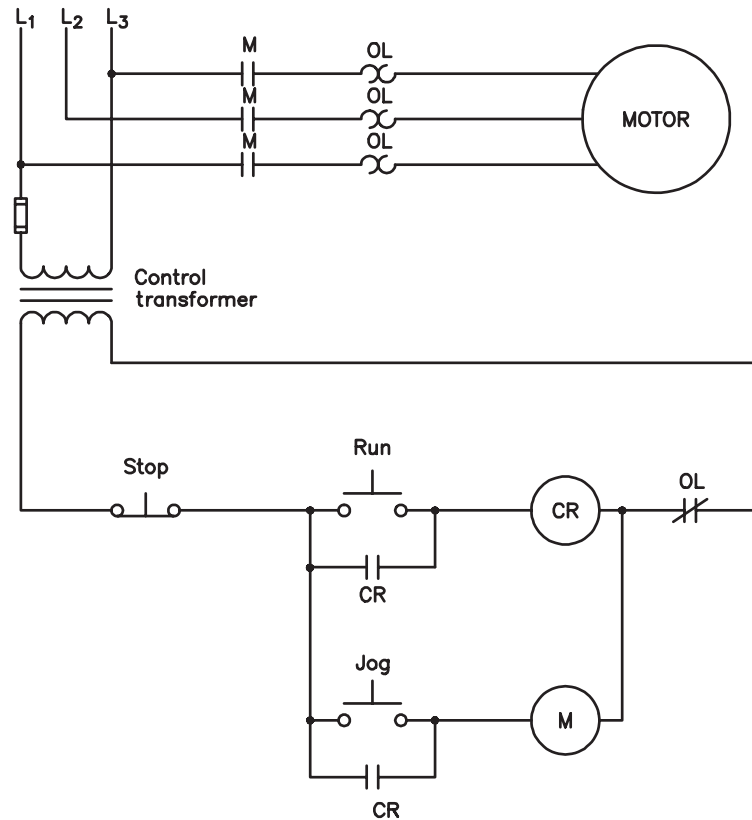
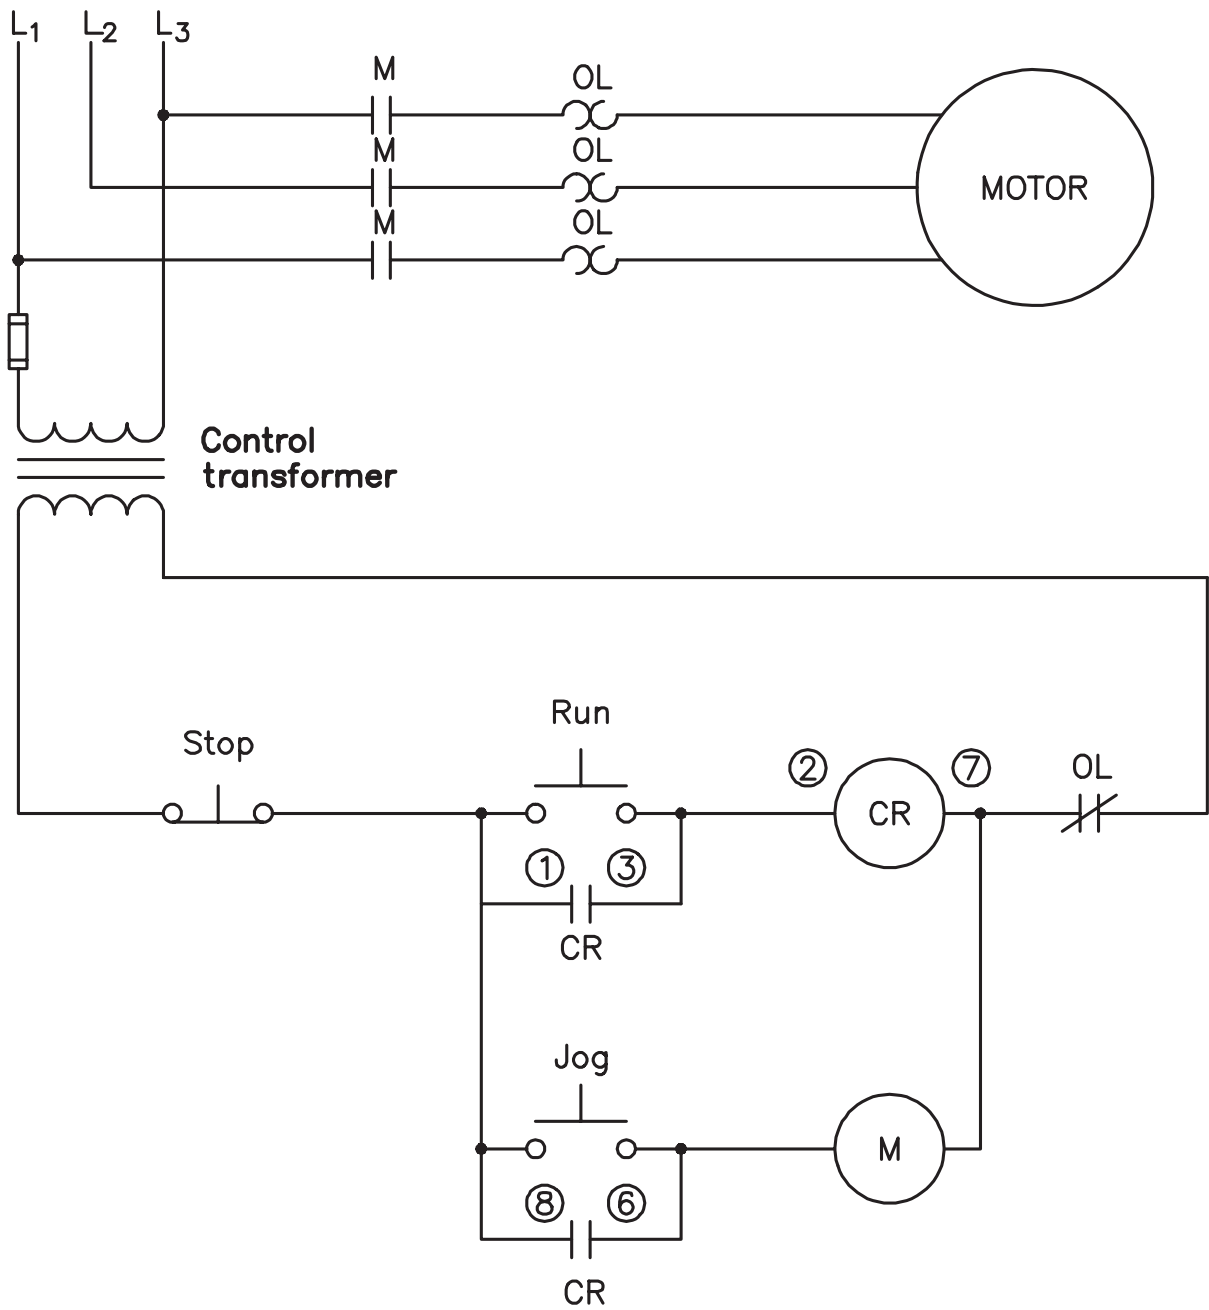
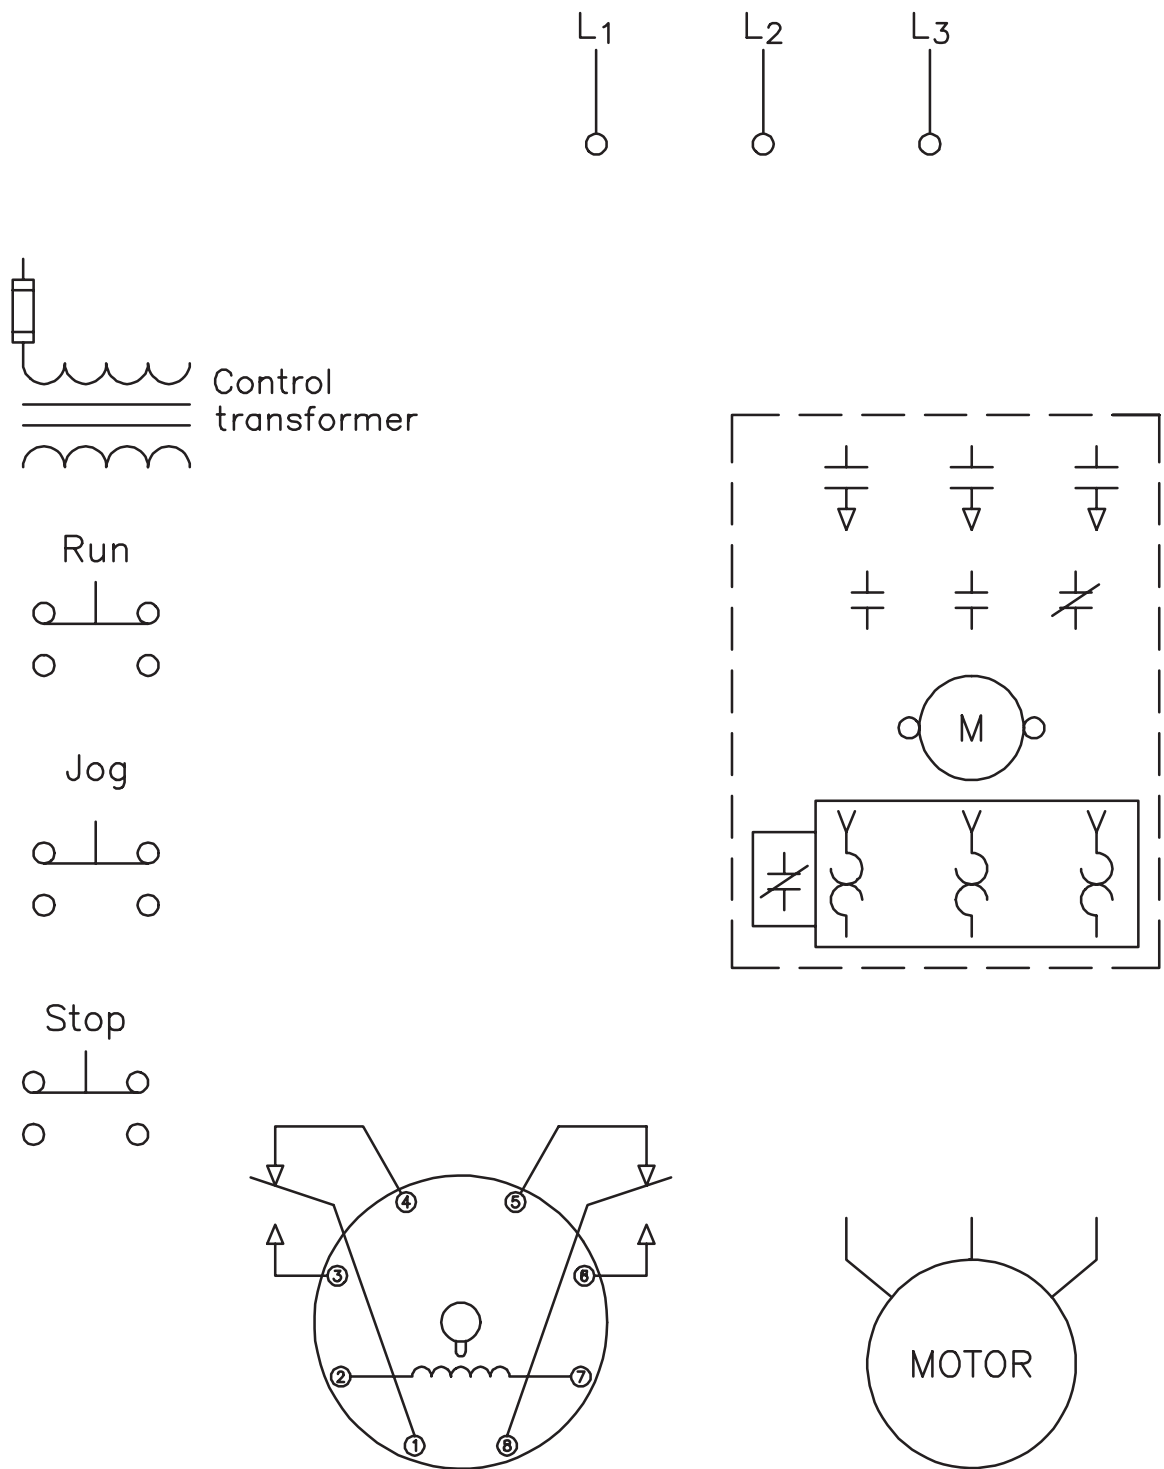

Figure 30-4 Run-jog control using a control relay.
Figure 30-8 Adding pin numbers aids in connecting the circuit.
Figure 30-9 Components for circuit.
Although a double-acting push button can be used to construct a run-jog circuit, it is not generally done because there is a possibility that the normally closed section of the jog button could reclose before the normally open section reopens. This could cause the holding contacts to lock the circuit in the run position causing an accident. To prevent this possibility, a control relay is often employed (Figure 30-4). In the circuit shown in Figure 30-4, if the jog push button is pressed, M contactor energizes and connects the motor to the line. When the jog button is released, M coil de-energizes and disconnects the motor from the line.
When making connections to tube sockets, it is generally helpful to place the proper relay pin numbers beside the component on the schematic diagram. To distinguish pin numbers from wire numbers, pin numbers will be circled. The schematic in Figure 30-4 is shown in Figure 30-8 with the addition of relay pin numbers. The connection diagram in Figure 30-7 shows that the relay coil is connected to pins 2 and 7. Note that CR relay coil in Figure 30-8 has a circled 2 and 7 placed beside it.
The connection diagram also indicates that the relay contains two sets of normally open contacts. One set is connected to pins 1 and 3, and the other set is connected to pins 8 and 6. Note in the schematic of Figure 30-8 that one of the normally open CR contacts has the circled numbers 1 and 3 beside it and the other normally open CR contact has the circled numbers 8 and 6 beside it.
1. Using the drawing in Figure 30-8, place wire numbers on the schematic.
2. Using the wire numbers placed on the schematic diagram in Figure 30-8, place corresponding wire numbers beside the proper components shown in Figure 30-9.
3. Connect the circuit shown in Figure 30-8.